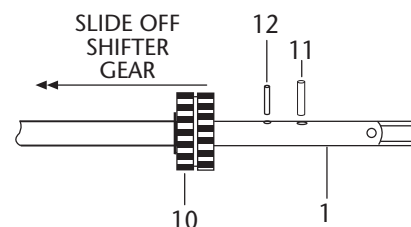

Figure 4
3. Slide off the gearbox cover (*Item 3*). Make sure that the shifter shaft stays in low gear and does not come out with the gearbox cover. (Otherwise, the ball and spring will be lost in the grease, see *Items 8 and 9, Figure 4*). Then, remove the six gearbox cover screws (*Item 4*) and gearbox cover (*Item 3*).
6. Remove the crankshaft (*Item 1*) by tapping it out from behind the mounting plate (see **Figure 4**). Be prepared to catch the detent ball (*Item 8*) and spring (*Item 9*) as you remove the crankshaft.